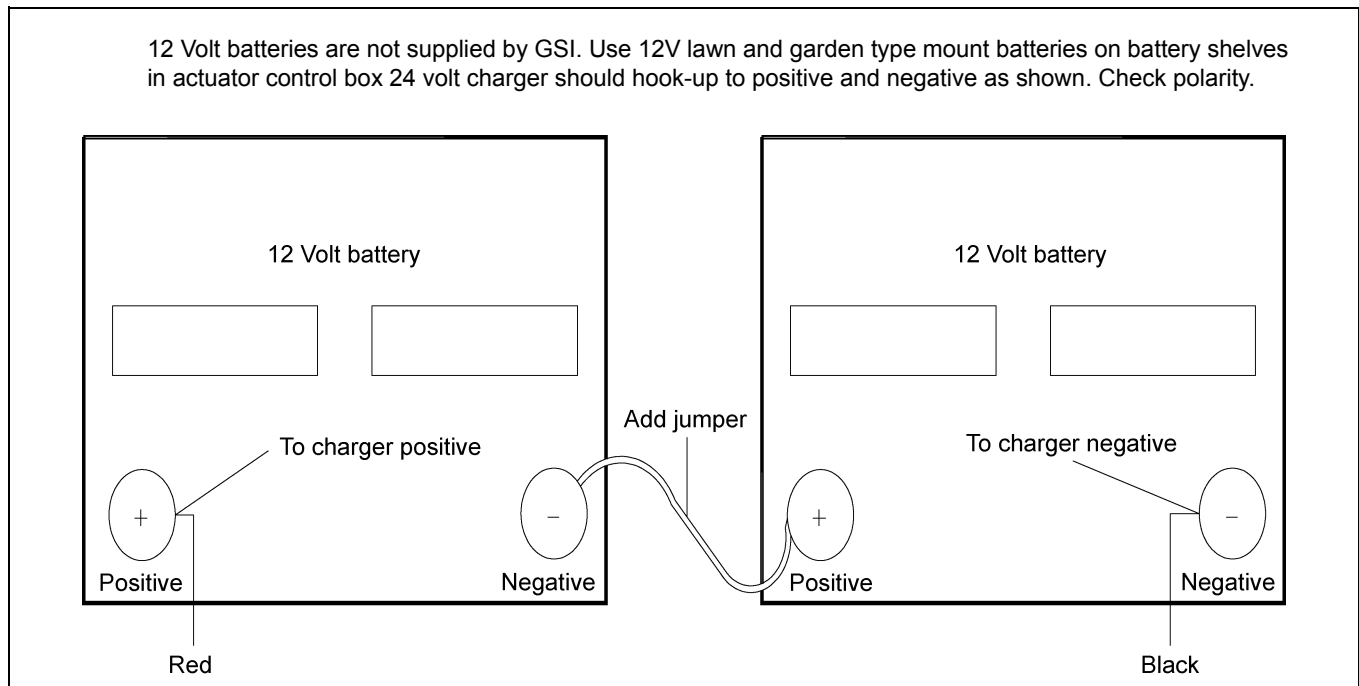

Figure 4N
1. Mount the two (2) 12V DC batteries in the actuator control box on the proper shelves.
5. Use Figure 4N to guide installation.